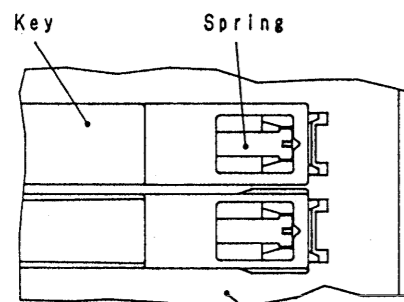

Fig. 3
2. Referring to Fig.2, pulling the key in the direction of arrow ②, disengage the key fulcrum from the chassis. See Fig.3 and 4 for disengaged status.